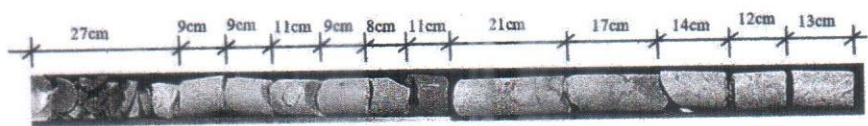

Fig. 1: Question no. 1(c)
- (c) A core stack obtained from rock coring is shown below (Fig. 1) with the average lengths of collected cores. The top 27 cm rock cores are broken into small pieces as shown. The total length of coring is equal to 2.0m. Classify the rock mass based on RQD. Also determine the value of TCR. (06+03)